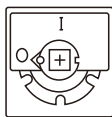

Figure 42
(6) As shown in Figure 42: Paste the identification plate on the panel and stick it firmly and upright; Then place the handle on the square axis of the panel and point it towards the "0" position marked; Then secure the handle to the panel square shaft with flat head screws and tighten the screws.